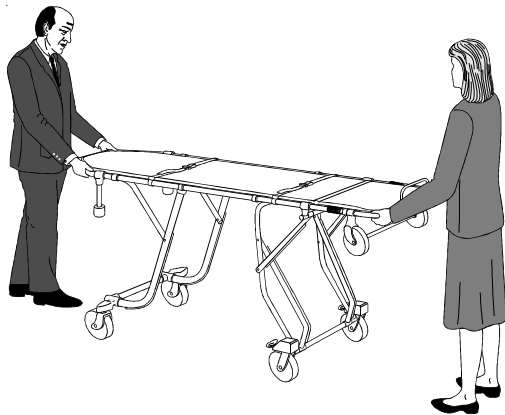

Figure 2 - Changing Cot Height with Two Operators
3. Both operators grasp corners of main frame, using an underhand grip (Figure 2).
1. Operators position themselves at opposite ends of the cot, facing each other and grasping corners of main frame using an underhand grip (Figure 2).